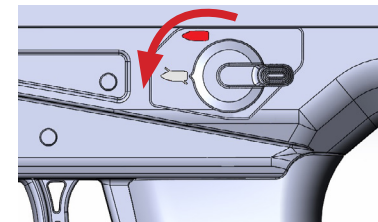

Fig. a-1
2. Place the MDR on "Safe" by rotating the safety selector switch clockwise into the "Safe" position. (Counter-clockwise for left side manipulation) (Fig. a-1)